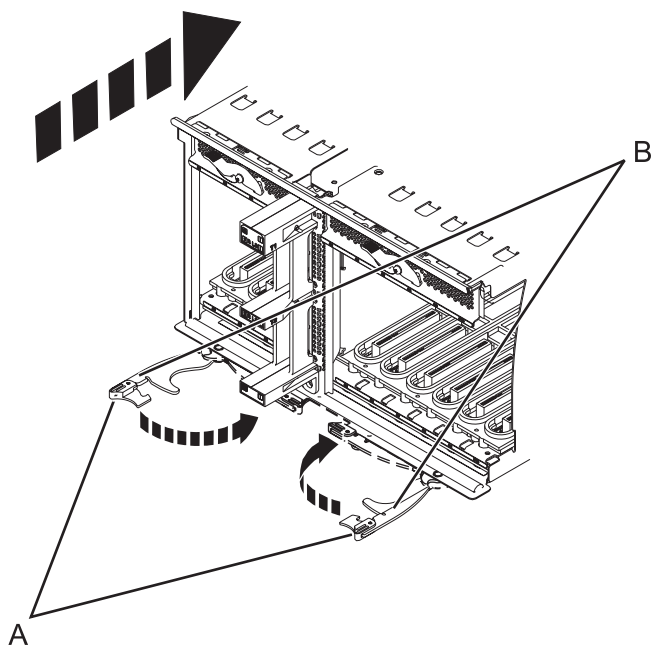

Figure 58. Install the I/O system board on a rack-mounted model
- Insert the I/O system board firmly into the server, as shown in Figure 58 on page 74.
- Secure the I/O system board with the locking tabs (A), as shown in Figure 58 on page 74.